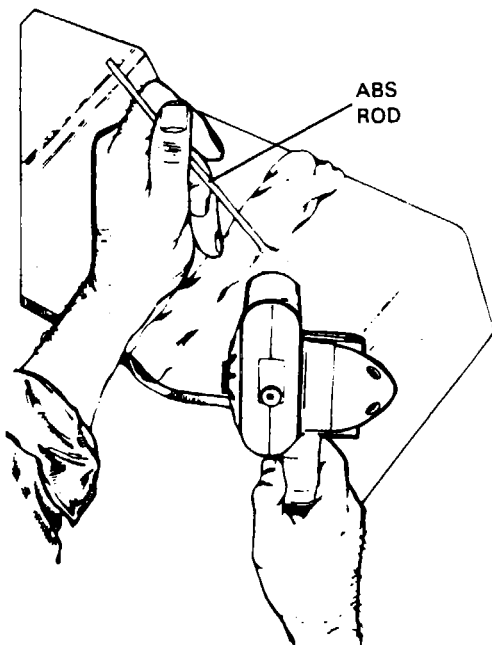

Figure 4-34. Repair of Impacted Damage
1. Stress lines produce a whitened appearance in a localized area and generally emanate from the severe bending or impacting of the material. (Refer to Figure 4-34.)